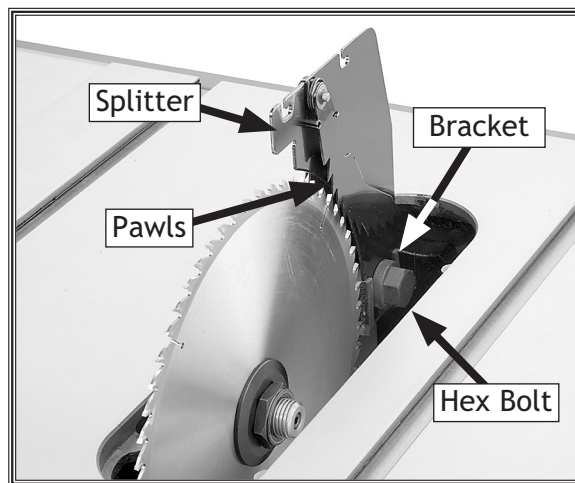

Figure 28. Splitter installed.
3. Using an arbor wrench, loosen the hex bolt shown in **Figure 28**.